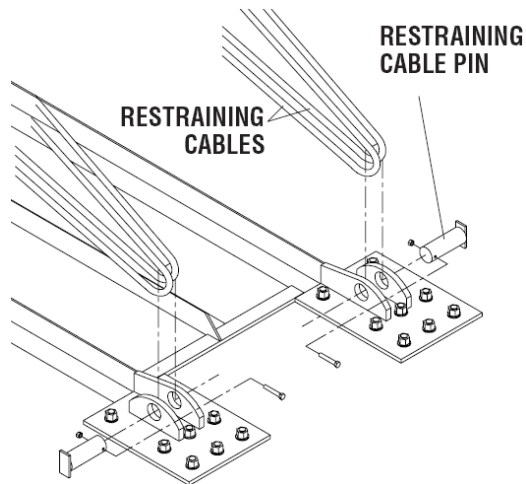

Figure 15
2. Route the Restraining Cable through the Cable Guides on the sides of the Cylinders, around the Restraining Cable pin as shown on page 21 (Figure 15), back through the Top Cable guides of the Cylinders, and through the Top Cable Guide of the Side Plate (Figure 14).